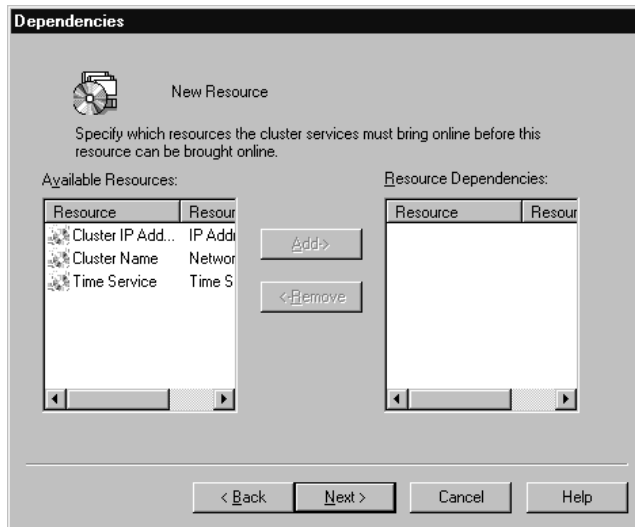

Figure 21. The Dependencies window
9. Select **OK**. This opens the Dependencies window (see Figure 21).